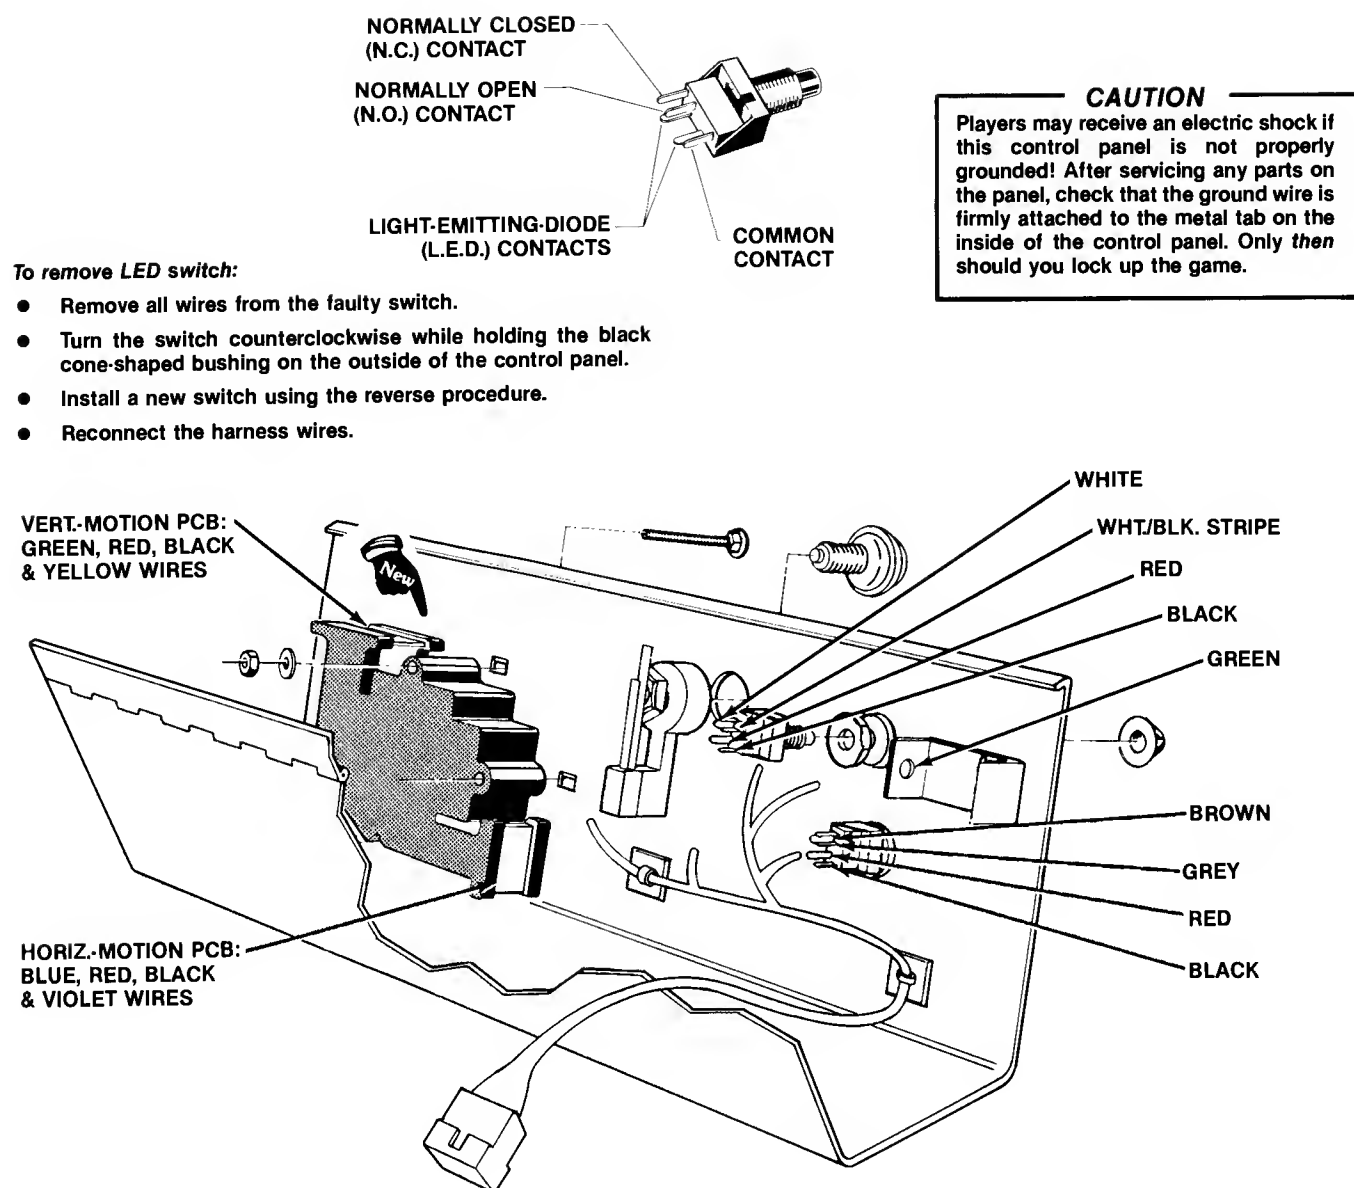

Figure 10 Opening the Control Panel and Replacing Switches
The light-emitting diode (LED) switches on the control panel have a very low failure rate. In case a switch should ever be suspect, first test it per the description that follows. To replace the switch, refer to Figure 10.
3. Connect multimeter leads to appropriate LED switch contacts (see Figure 10 for designation of switch contacts).